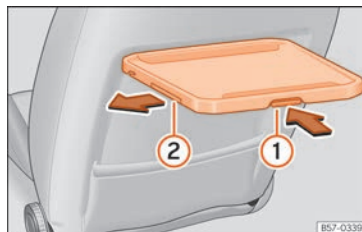

Fig. 137 Front left seat: folding table with drinks holder.
- Press the unlocking lever under the table »» Fig. 137 ① and keep it that way.